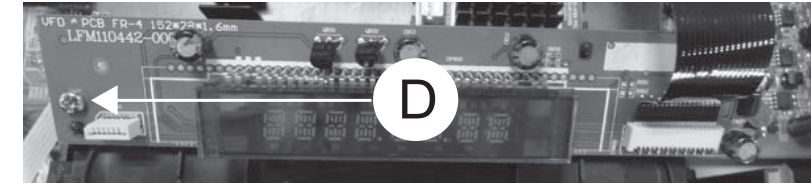

Figure 4
- 1) Loosen 1 screws "D" on the top of VFD Board as shown in figure 4.